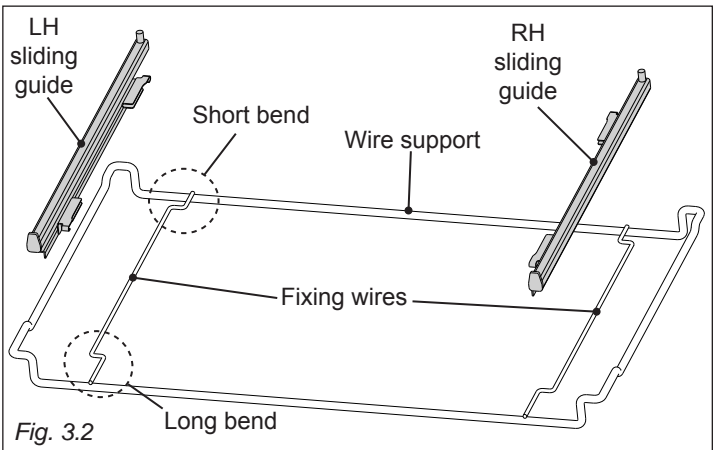

Fig. 3.2
- Telescoping sliding shelf support (fig. 3.2): The telescoping sliding shelf support makes it safer and easier to insert and remove the oven shelf. It stops when it is pulled out to the maximum position.
- You fit the RH and LH sliding guides on the wire support (fig. 3.2).